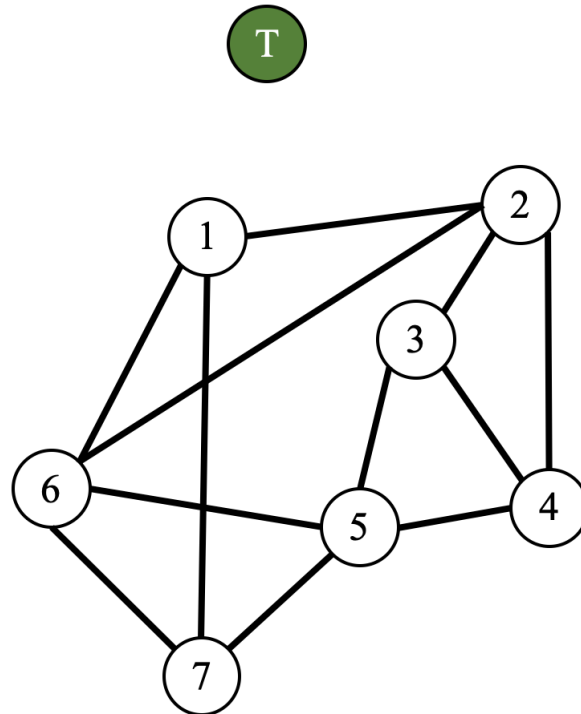

Figure 1: Network topology.
There are two different types of nodes, the bins (white) and the garbage truck (green): the former has a fixed storable capacity of trash (100 units), the latter is assumed as infinite capacity. The bins are connected according to the topology in figure 1, while the truck is connected with all the bins nodes even though the link are not shown in figure for the sake of simplicity. Moreover, all the nodes have a pair of X, Y coordinates that are randomly loaded at booting.
- Simulate your implementation with two different topologies and two different noise traces. The first topology is the one in figure 1 and the second one is up to you, with at least 7 motes. As regards noise trace, one could be the topology seen at lesson, the other one is of your choice. You have to simulate your implementation with TOSSIM or with Cooja.